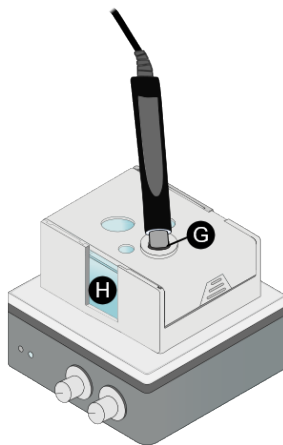

Figure 2. Use the O-ring to adjust sensor height
5. Use the O-ring © as shown in Figure 2 to set the probe about 1" deep into the inner chamber. Observe the probe through the side opening ④ to check for the correct depth. There should be enough space for the stir bar to avoid striking the probe, and the probe should not be touching the tank floor.